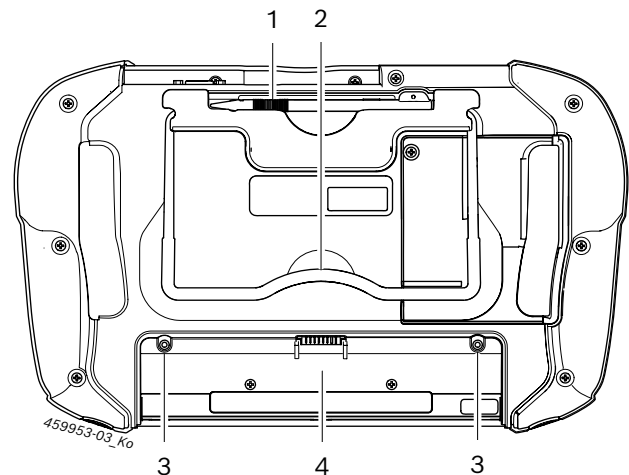

Fig. 3: Underside of KTS 350
➤ Insert the battery in the battery compartment and secure by means of the two screws on the battery (see fig. 3, item 3).